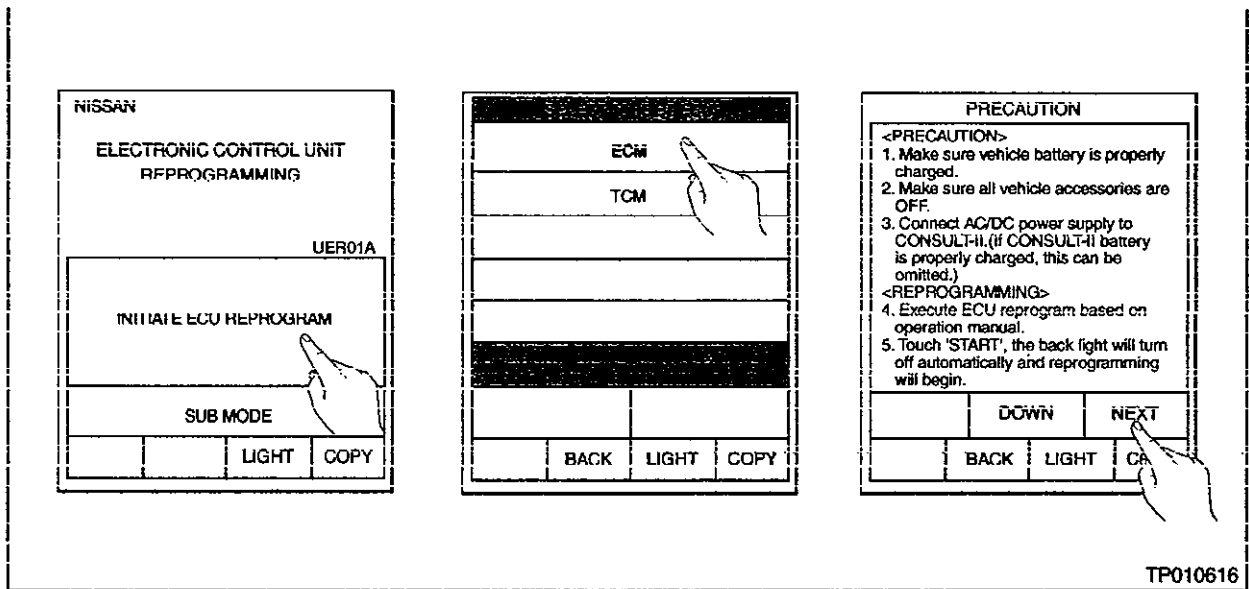

Figure C7
12. Press "INITIATE ECU REPROGRAM" (see Figure C7), then do the following: